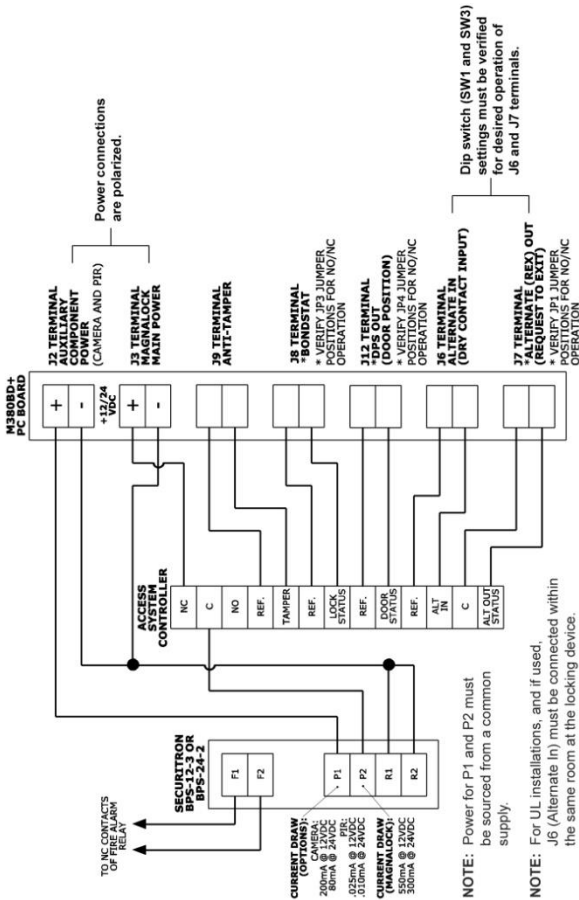
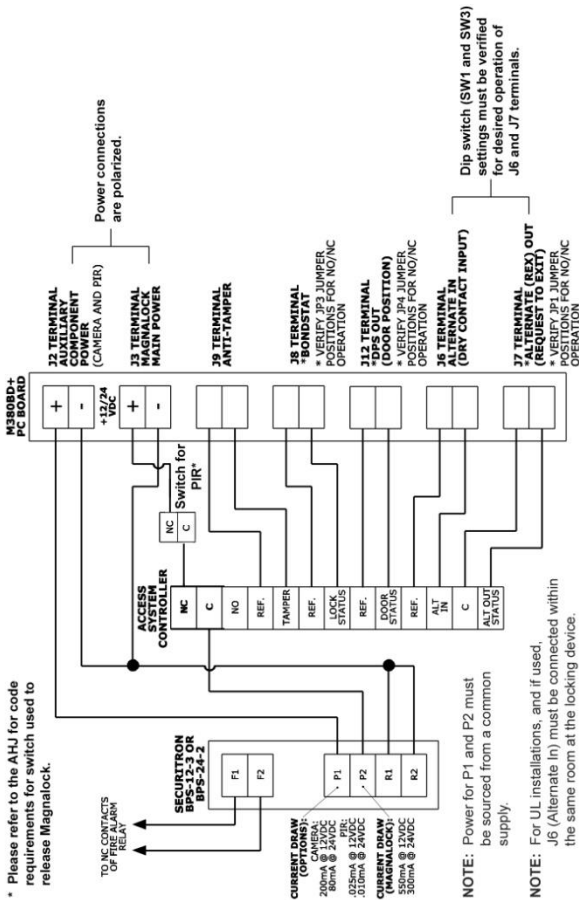

Figure 29. Wiring for M380 BDC/BDC2
Figure 30. Wiring for M380 BDCX/BDC2X/BDX
1. PULL wires/cables through the wire feed-through hole(s) that are drilled in the frame, and CONNECT wiring using the Figure 29, "Wiring for M380 BDC/BDC2," and Figure 30, "Wiring for M380 BDCX/BDC2X/BDX," as guides.
NOTE 3: A BNC straight adapter is also included for connections to a male BNC connector (see Figure 30, “Connecting the Camera”).